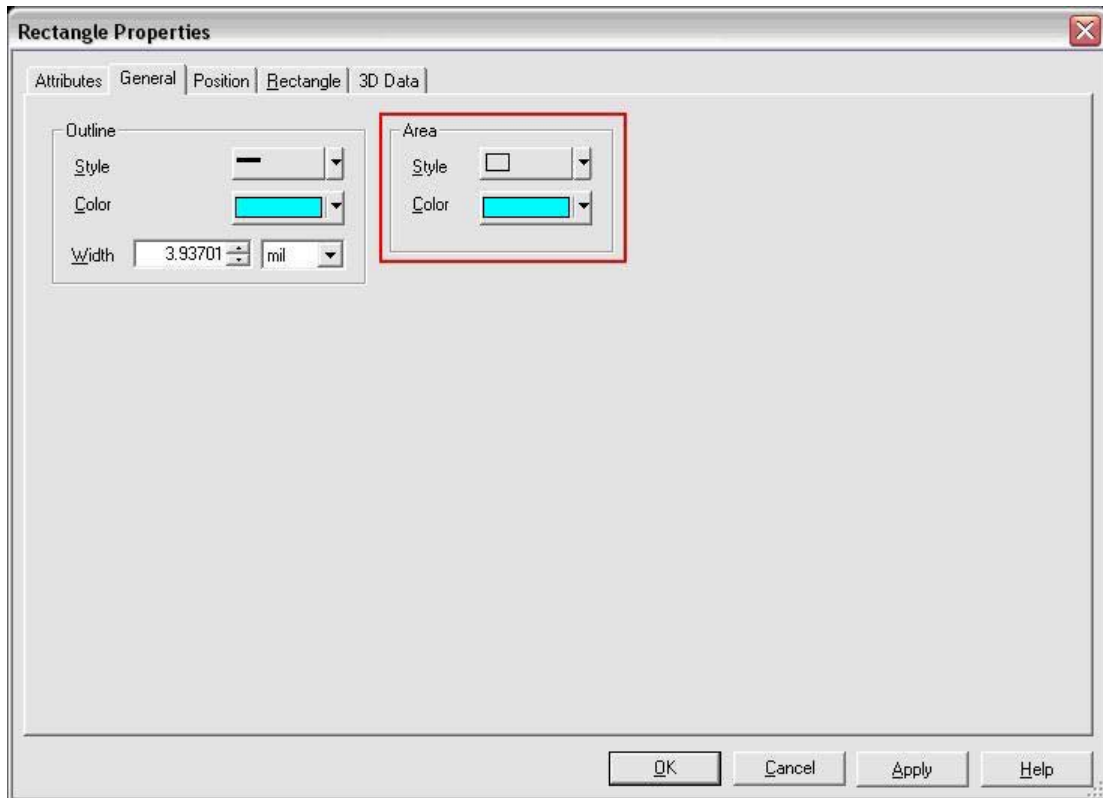

Figure 20 - Rectangle Properties
c.) Name the component **SMD20** as in Figure 20 (red box).